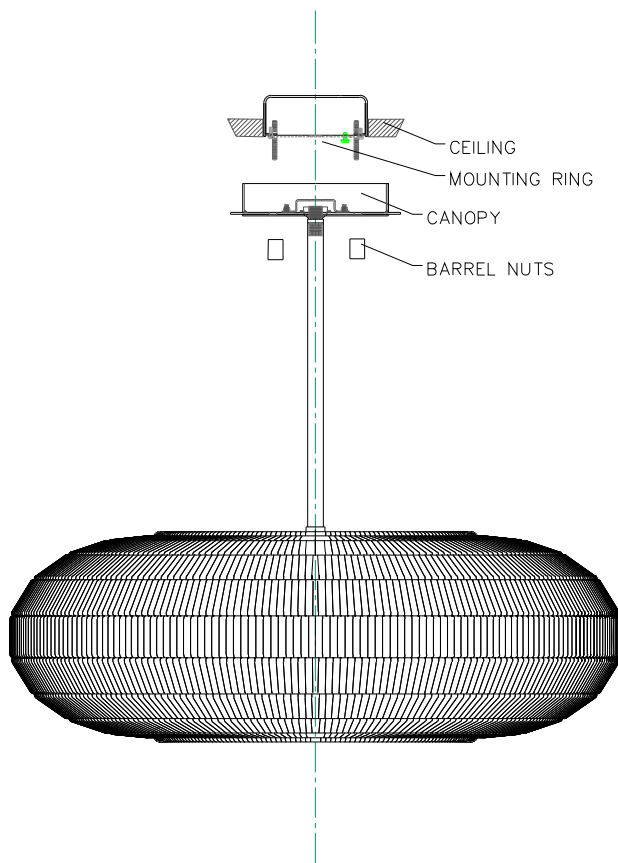

FIGURE-03
7. Using the barrel nuts, loosely fasten the fixture to the mounting ring. Rotate and align the canopy as necessary. Tighten the barrel nuts. (See Figure-03)